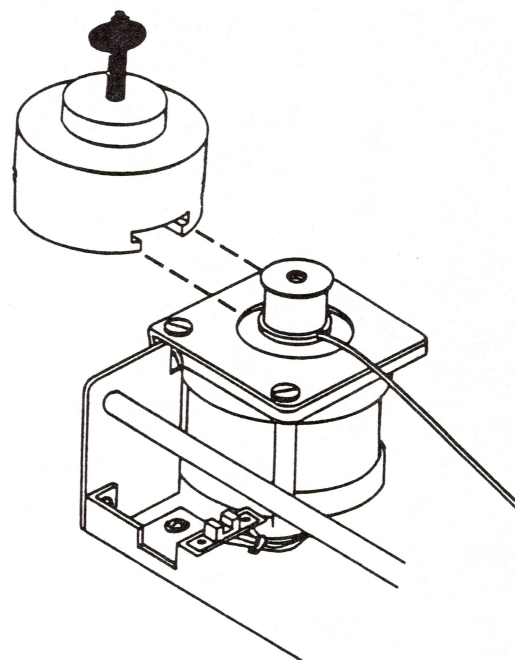

FIGURE 9
18. Use the pulley remover to take off the motor pulley. Slide the pulley remover onto the top of the pulley and turn the screw clockwise until the pulley is free (see Figure 9).